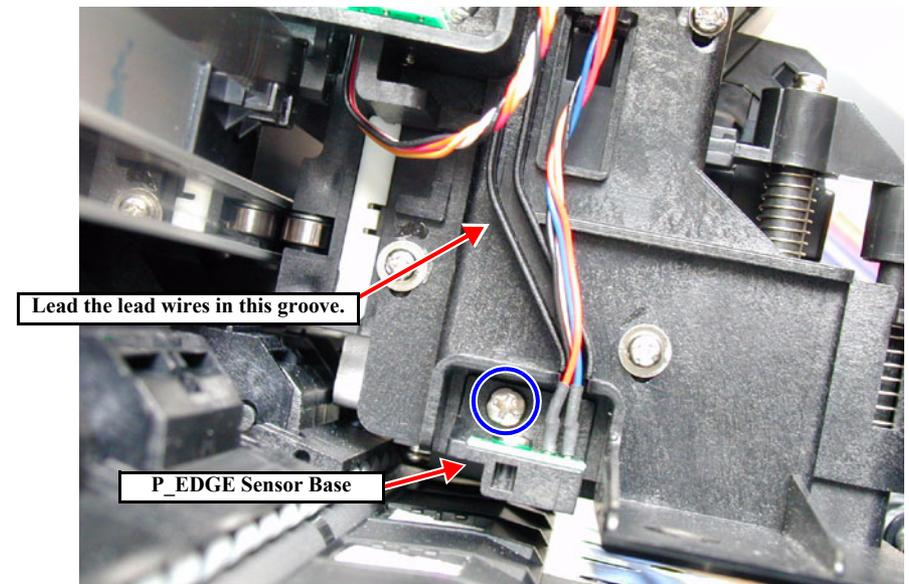

Figure 4-40. Removing the P\_EDGE Sensor ASSY 2/2
8. Remove the one screw (M3×6) securing the EDGE Sensor Base ASSY and remove the EDGE Sensor Base ASSY. (See Figure 4-40)
(See Figure 4-40)